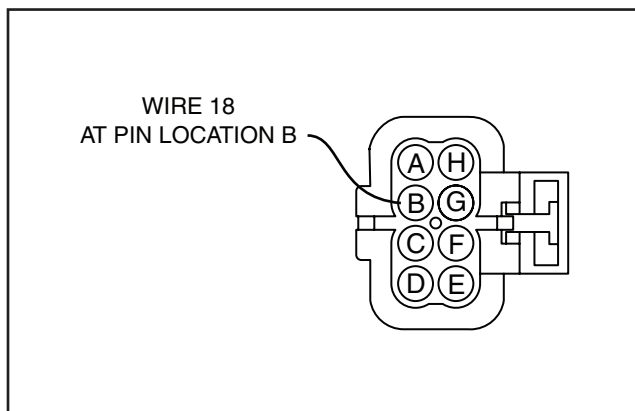

Figure 7-31. – Remote Harness Connector
3. Connect one test lead to Pin Location B on the Remote Harness connector (see Figure 7-31). Connect the other test lead to a clean frame ground. “Infinity” should be measured.